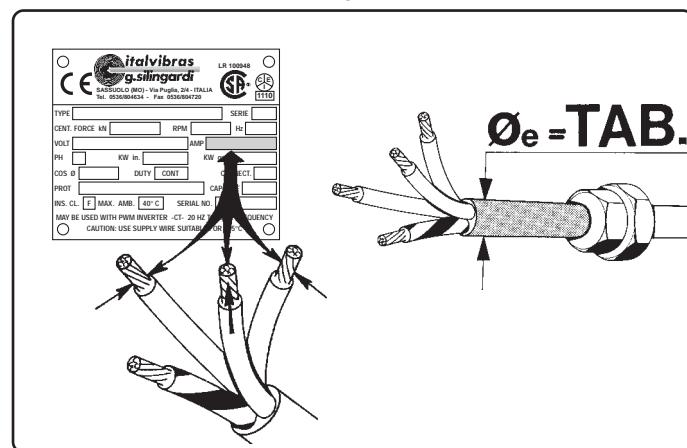

Fig. 9
3.2 COLLEGAMENTO ELETTRICO (Fig. 9)
3.2 RACCORDEMENT ELECTRIQUE (Fig. 9)
3.2 ELEKTRISCHER ANSCHLUSS (Abb. 9)
3.2 CONEXION ELECTRICA (Fig. 9)